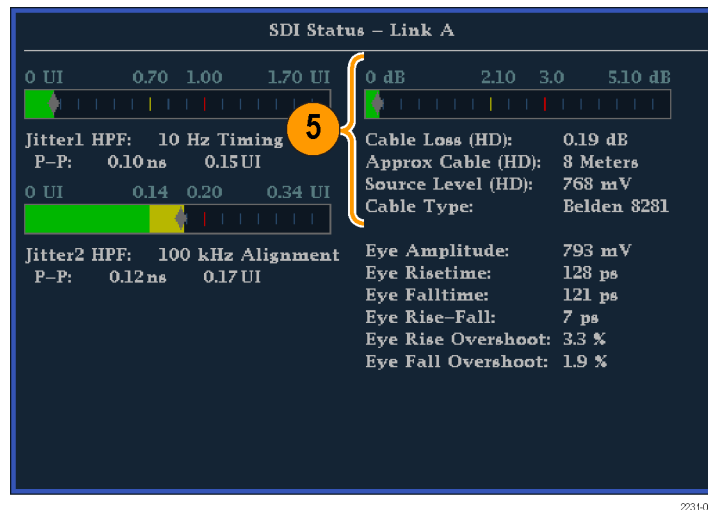

Figure 54: Cable loss information in the SDI Status display
5. Use the Cable Loss thermometer and readouts to monitor the cable loss. (See Figure 54.)